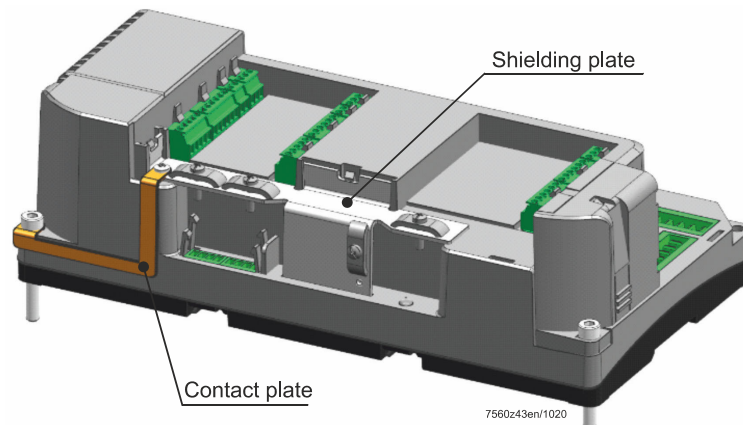

Figure 17: AGG6.500 shielding mechanism (optional)
The cable shields of the low-voltage cables can be connected to the functional earth (FE) via the AGG6.500. For this purpose, the cable shields are contacted by means of terminals and connected to the functional earth (FE) via the AGG6.500. The functional earth (FE) and the AGG6.500 are connected via a screw connection on the LMV6 housing or via a separate cable connection (see Figure 17: *AGG6.500 shielding mechanism (optional)*).